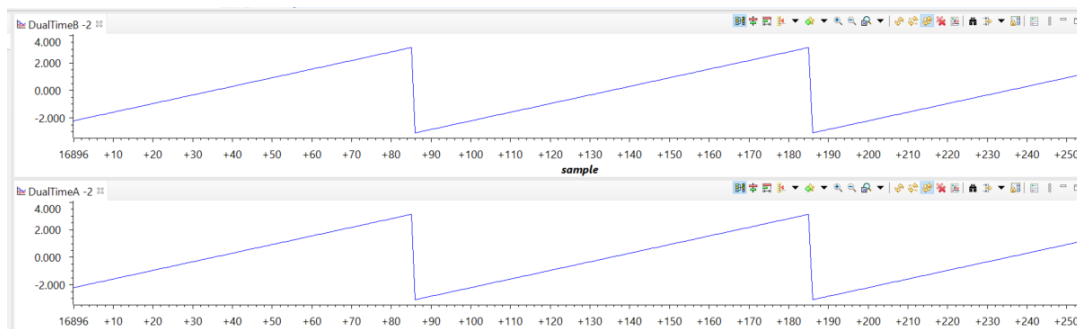

Figure 11 Current Angles from Angle Generator and QEP module
- As seen in the graph, the electrical angle of the motor (from QEP module) and the generated angle (Angle_gen) are aligned as shown in Figure 11.